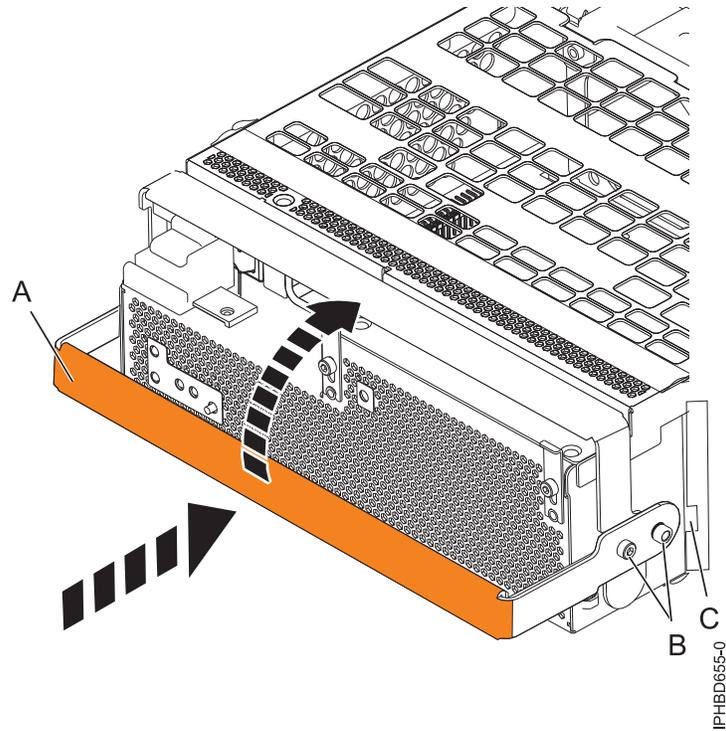

Figure 75. Replacing a power supply
10. To replace the power supply, with the locking handle (A) in the open position, push the power supply into the expansion unit as shown in Figure 75 on page 127.
11. Close the locking handle (A) until the power supply locks into position.